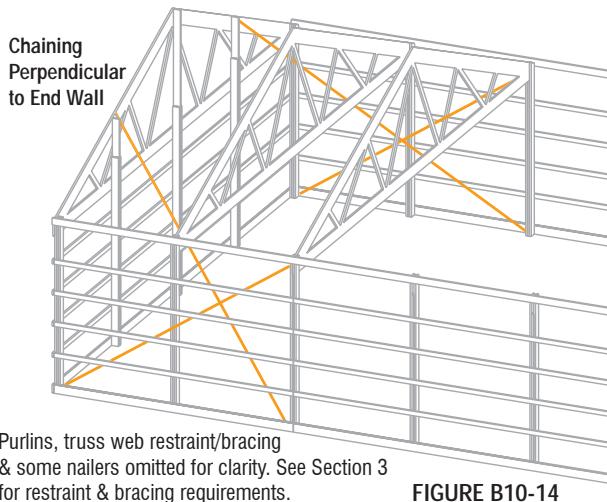

FIGURE B10-14
- b) Chains or cables (Figure B10-14) together with turn-buckles, or come-alongs of sufficient strength (min. 2,000 lbs. capacity).